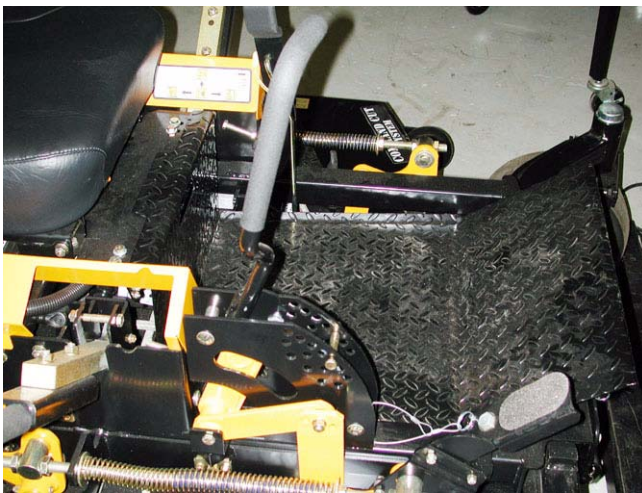

Figure 8.4
- 8.4. The larger, heavier decks have a foot assist pedal to help raise and lower the deck. See Figure 8.4.